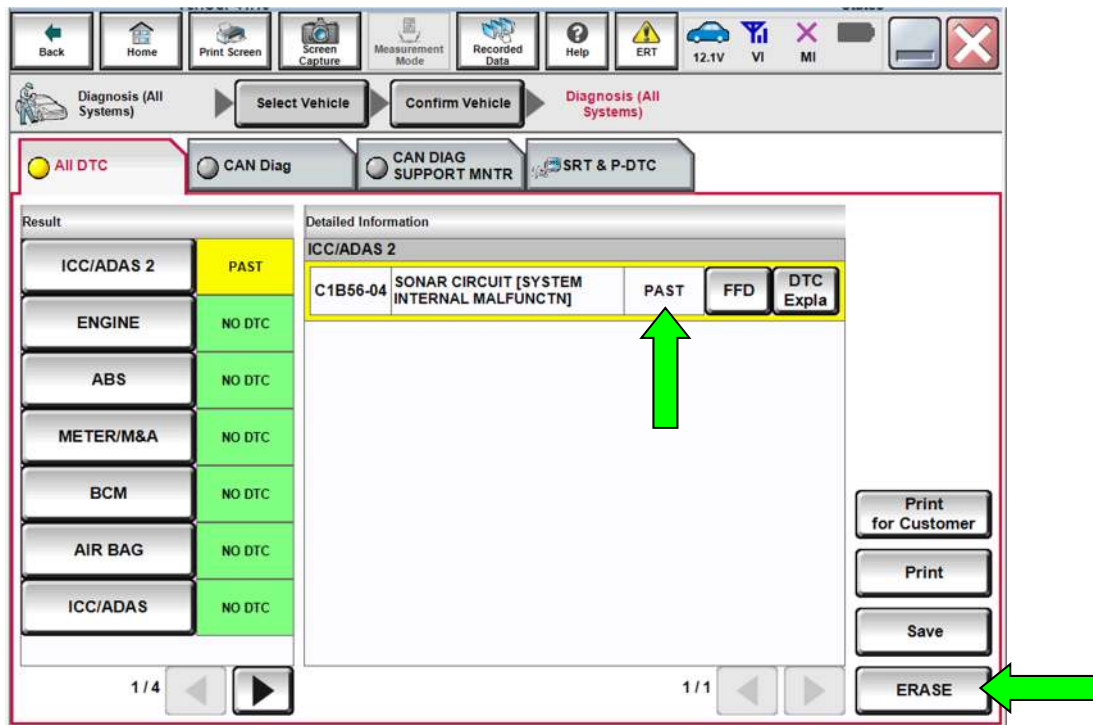

Figure 42
69. Confirm DTC C1B56-04 is displayed as PAST (not CRNT). See Figure 42.